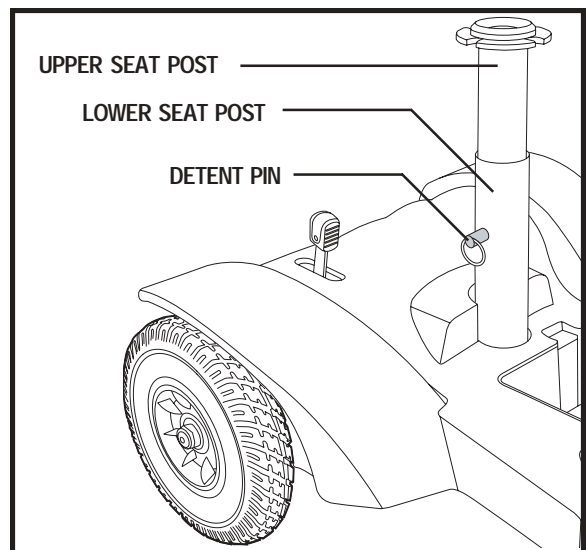

Figure 7. Seat Height Adjustment
2. Use the attached ring to pull and remove the detent pin from the lower seat post. See **figure 7**.